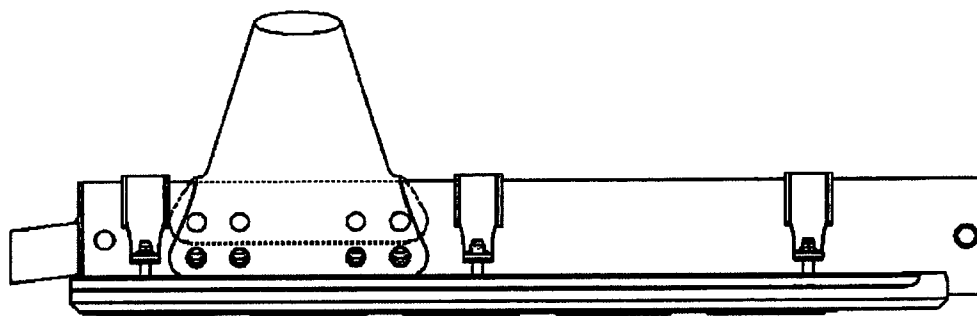

FIGURE 1: D350-578-0XX BEARPAW INSTALLATION
- 2.3 Position a Bearpaw complete with D3859-041 Wearplate Assy under the aft end of each skidtube as shown in Figure 1.